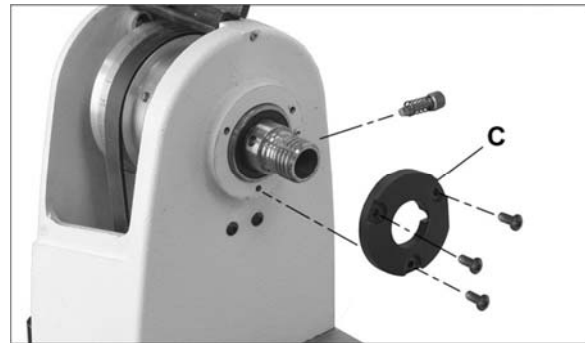

Figure 30
7. Remove three button head screws on the cover (C, Figure 30), and remove cover. NOTE: The spindle lock will pop out with its spring. Be careful not to lose these parts.